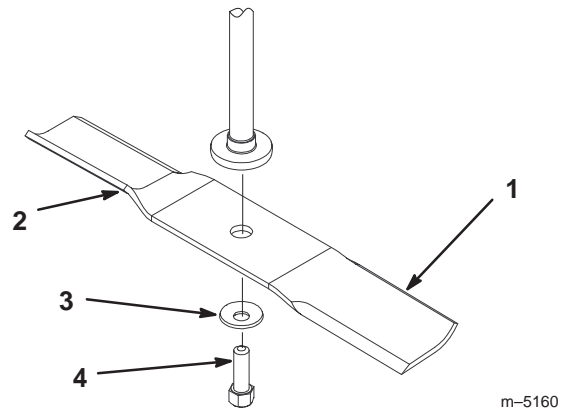
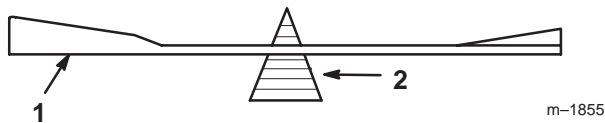

Figure 21
Figure 23
Hold the blade end using a rag or thickly-padded glove. Remove the blade bolt, curved washer, and blade from the spindle shaft (Fig. 21).
2. Check the balance of the blade by putting it on a blade balancer (Fig. 23). If the blade stays in a horizontal position, the blade is balanced and can be used. If the blade is not balanced, file some metal off the end of the sail area only (Fig. 21). Repeat this procedure until the blade is balanced.
1. Install the blade onto the spindle shaft (Fig. 21).
2. Install the curved washer (cupped side toward the blade) and blade bolt (Fig. 21). Torque the blade bolt to 35–65 ft.-lb. (47–88 N·m).